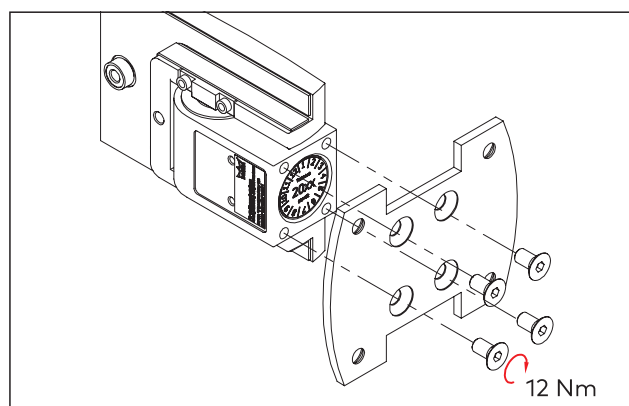

Fig. 16 Attaching the mounting plates to the double-action hinge
1. Attach the mounting plate with 4 countersunk screws (M6 x 12) to the TENSOR double-action hinge (Fig. 16).